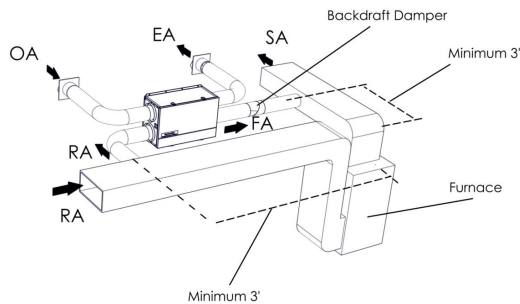

Figure 10
**Note:** Backdraft damper is required with this ducting application. Failure to install according to Figure 10 may cause uneven pressure differential between supply and exhaust air. This could result in a risk of back-drafting vented gas appliances.